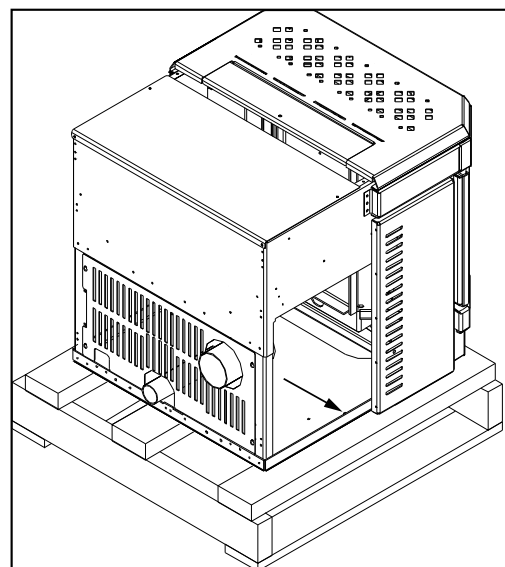

Figure 7: Screws to take out to remove insert unit from pallet.
INSERT: To remove your new insert stove from its pallet, remove the two (2) wood screws just inside the unit (see Figure 7). Remove the unit from the pallet and install the pedestal (refer to "INSTALLATION OF PEDESTAL - INSERT")